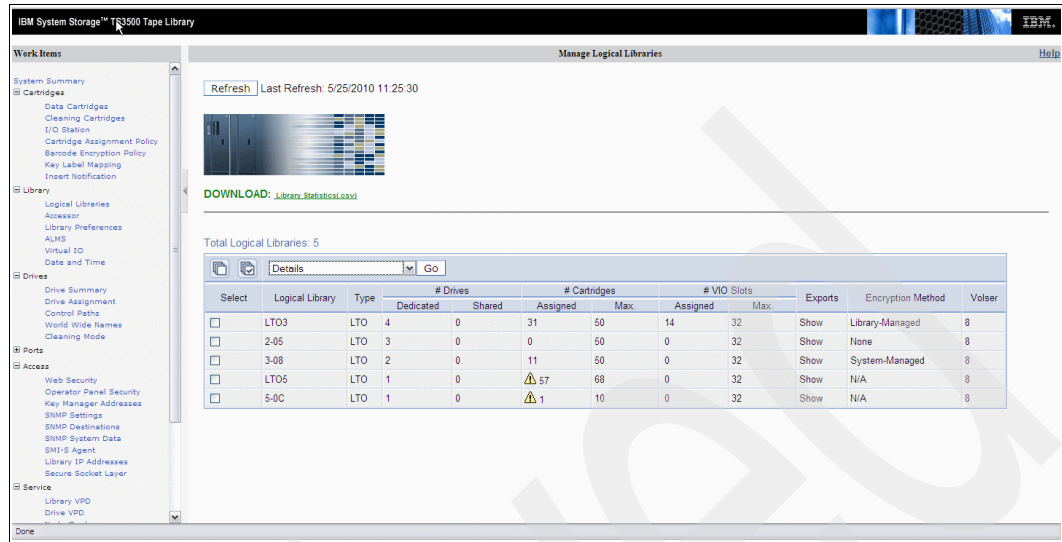

Figure 3-18 TS3500 Modify Encryption Method window
- From the Select Action drop-down box, select **Modify Encryption Method** and click **Go**. The Modify Encryption Method pop-up window displays (Figure 3-18).